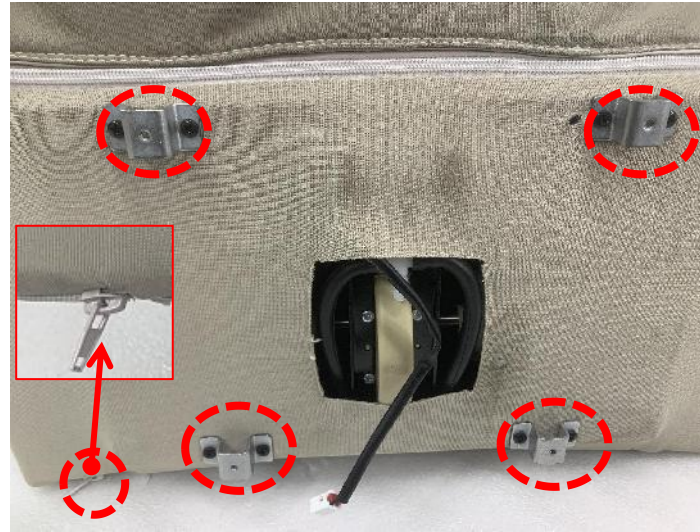

Figure 2
2. Remove 4 calf cushion blocks and unzip to remove the kneading assembly holster (Figure 2)